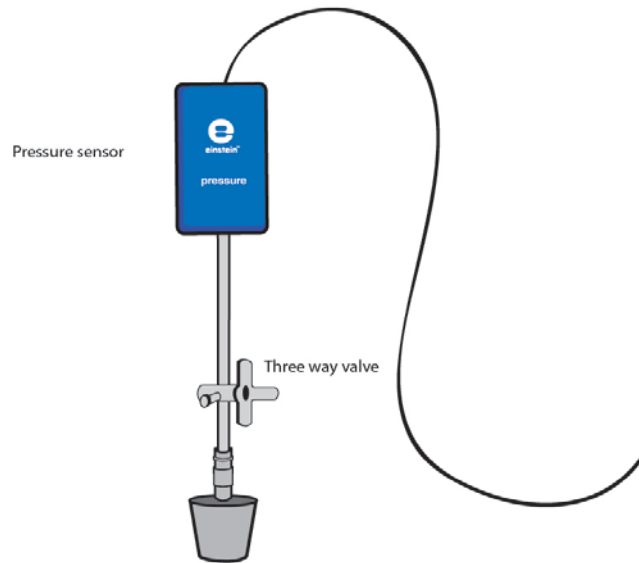

Figure 4
7. Insert a syringe extender into the stopper (Figure 4).